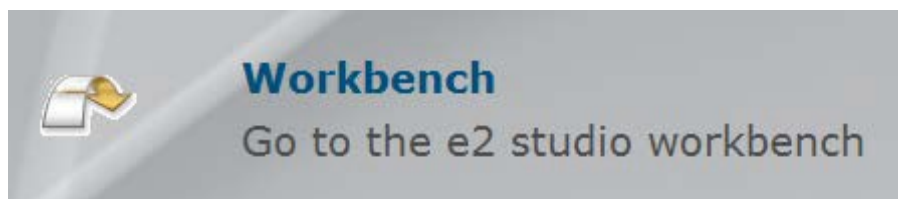

Figure 2.4 Workbench arrow
- D. When the workspace is opened, you may see the Welcome Window. If that happens, click the Workbench arrow to proceed past the Welcome Screen as seen in Figure 2.4.